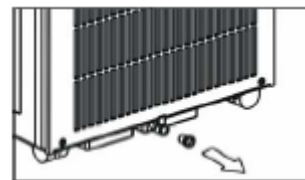

Fig. 10
1. Pull out the plug from the drain mouth and remove the water from the drain pan (Fig. 10).